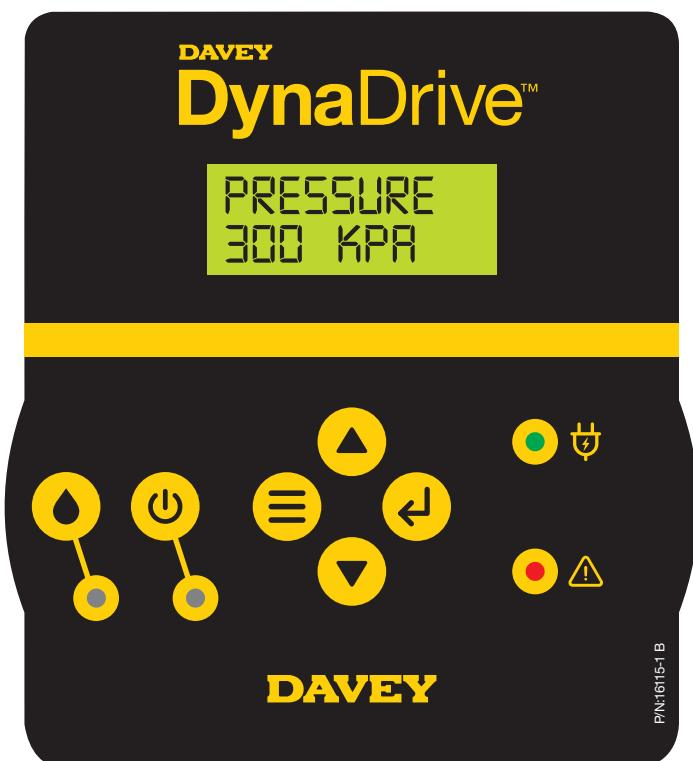

Figure 6.11
- To change the set pressure, use the **▲ Menu up button** or **▼ Menu down button**. Pressure changes are in multiples of 10kPa for DD60-10(CE) and DD90-11(CE) models, and 5psi for NPT model variants.
- Once you've reached your new set point, see figure 6.11;